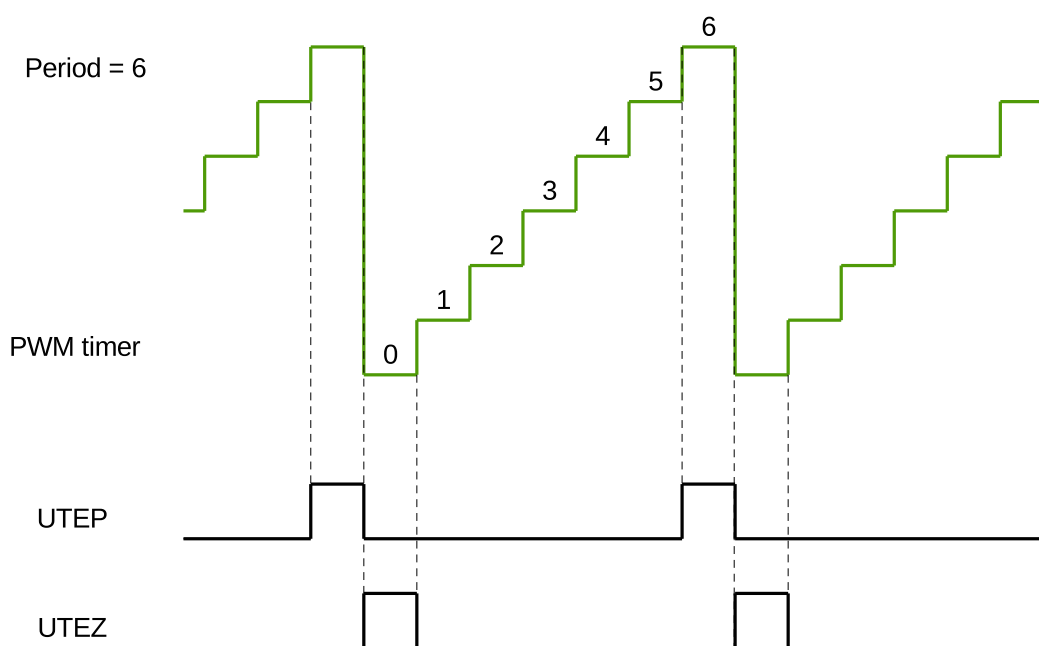

Figure 102: UTEP and UTEZ Generation in Count-Up Mode
Figures 102 to 104 show the timing waveforms of U/DTEP and U/DTEZ.
1. UTEP and UTEZ do not happen simultaneously. When the PWM timer is in count-up mode, UTEP will always happen one cycle earlier than UTEZ, as demonstrated in Figure 102, so their action on PWM signals will not interrupt each other. When the PWM timer is in count-up-down mode, UTEP will not occur.